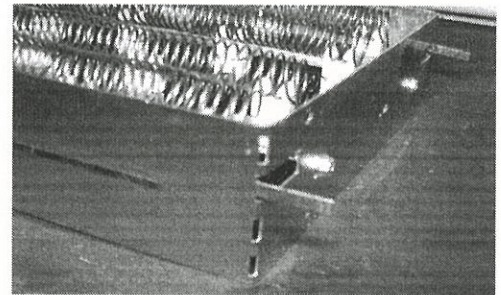

Fig. 1 - Alignment tabs.
4. Before inserting the heater into the blower section, bend the heater alignment tabs 90 degrees out. These tabs are located on the endcap section of the heater and will slide into the upper alignment holes in the back of the air handler box (see fig. 1).